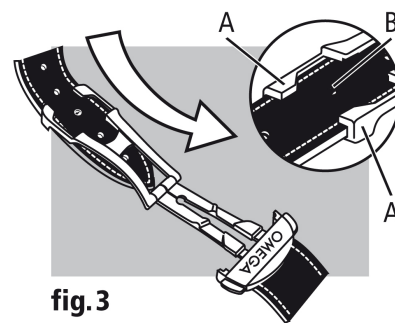

fig. 3
Adjusting the length (fig. 3): free the longer section from the two slideways (A) and from the catch (B). Adjust the bracelet in the required direction and reinsert in the catch and the two slideways. Try the watch for size and readjust if necessary.